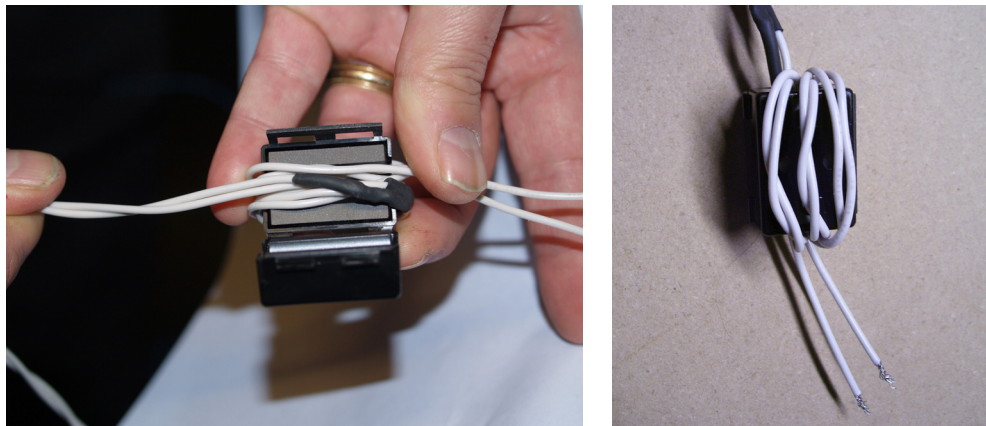

Figure 1 Wrap Twisted Wires Around the Ferrite Three Times
3. Wrap the twisted wire three times around the ferrite. This will result in the wire going through the core of the ferrite four times. See **Figure 1**.